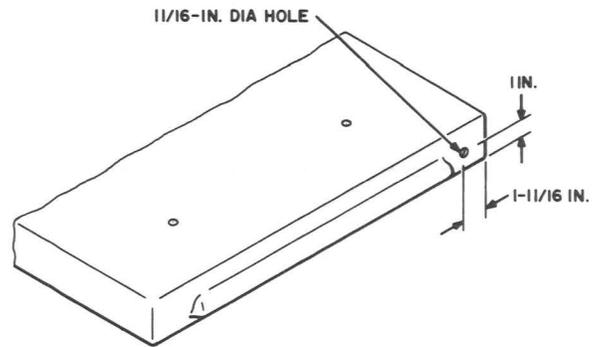

Fig. 5—Locating Hole in Roof of KS-16797 Booth for Light Cell
*The light cell is mounted in the right-front corner of the roof. Some booths have a plug or knockout for this purpose. If a plug or knockout does not exist, drill one 11/16-inch diameter hole in the roof as shown in Fig. 5. A Greenlee knockout punch should be used if available.*